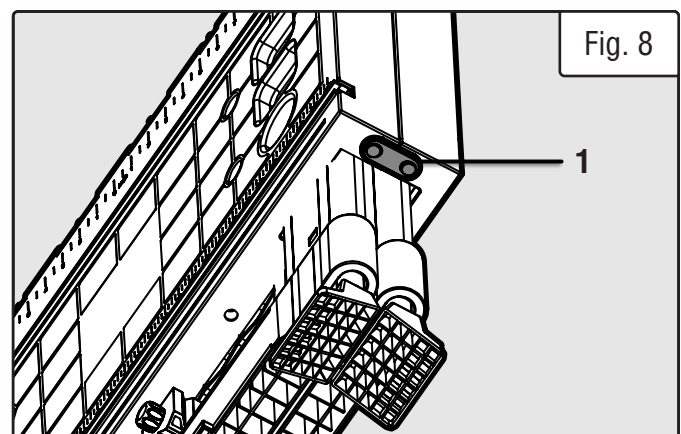

Fig. 8
3. Fold the legs together and secure the table in the folded position using the locking latches (Fig. 8 - 1).
4. Shorten the legs by pressing the leg extension buttons and pushing the legs back into the retracted position as shown in Fig. 8.